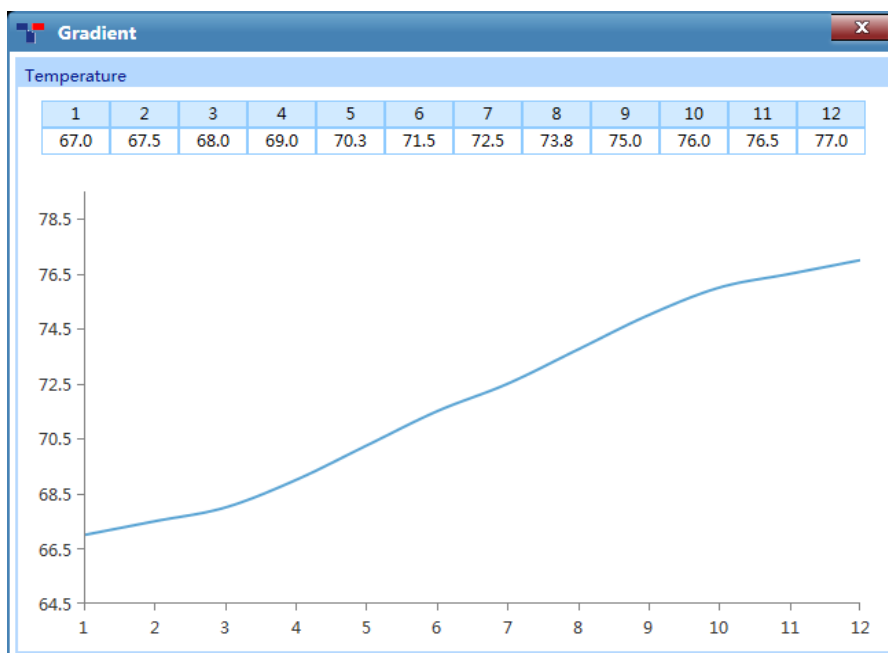

Figure D-5.6e Step Setting Dialog Box – Gradient Temperature Details
- **Details:** User can click < **Details** > to the specific gradient temperatures of each column and the Gradient distribution, as shown in figure D-5.6e.